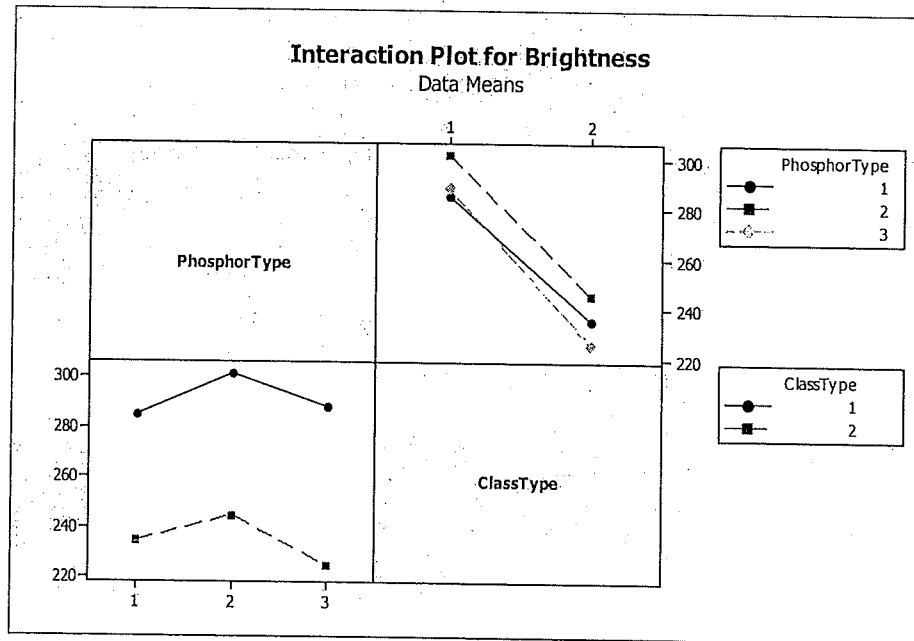

Figure 6 : Interaction Plot For Brightness And Grouping Information On Factors Using Fisher Method
- (ii) Provide your simple analysis for Brightness and Grouping Information on factors using the Interaction Plot and Fisher Method in Figure 6.